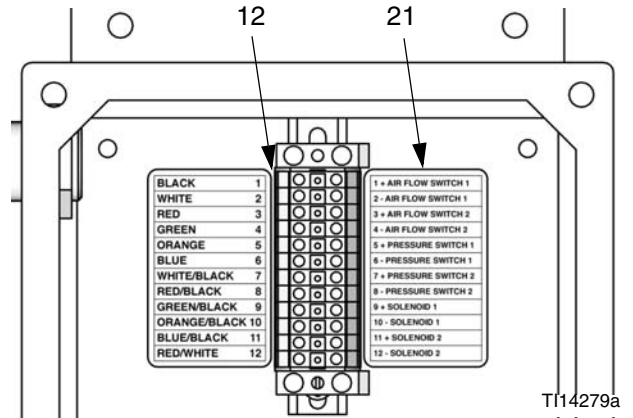

FIG. 8. Connect Solenoid to Terminal Strip
2. Connect the wires from SO#1 to the right side of the terminal strip (12), as indicated by the label (21); red (+12V) to pin 9, black (COM) to pin 10. See FIG. 8 and Table 1.
3. If using a second gun flush box, connect the wires from SO#2 to the right side of the terminal strip (12), as indicated by the label (21); red (+12V) to pin 11, black (COM) to pin 12. See FIG. 8 and Table 1.